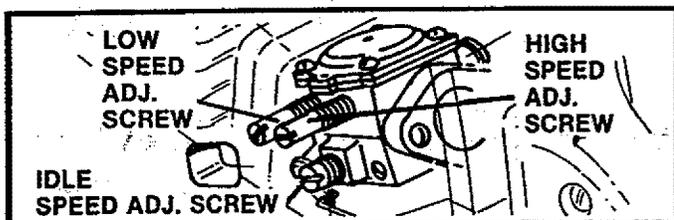

Figure 54
- Locate the three (3) Carburetor adjusting screws located on the fan housing side of the saw. Figure 54.